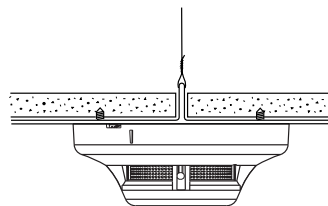

Figure 5.Smoke alarm mounted to drop ceiling.
- ❑ DO NOT mount a smoke alarm to a drop ceiling tile; mount it to a metal runner (see figure 5).